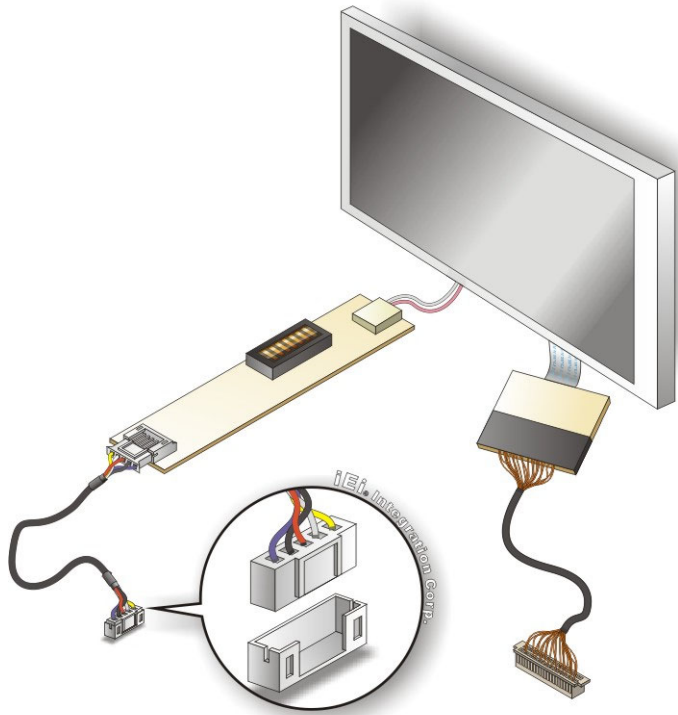

Figure 4-22: Backlight Inverter Connection
Step 4: **Connect backlight connector.** Connect the backlight connector to the driver TFT LCD PCB as shown in **Figure 4-22**. When inserting the cable connector, make sure the pins are properly aligned.